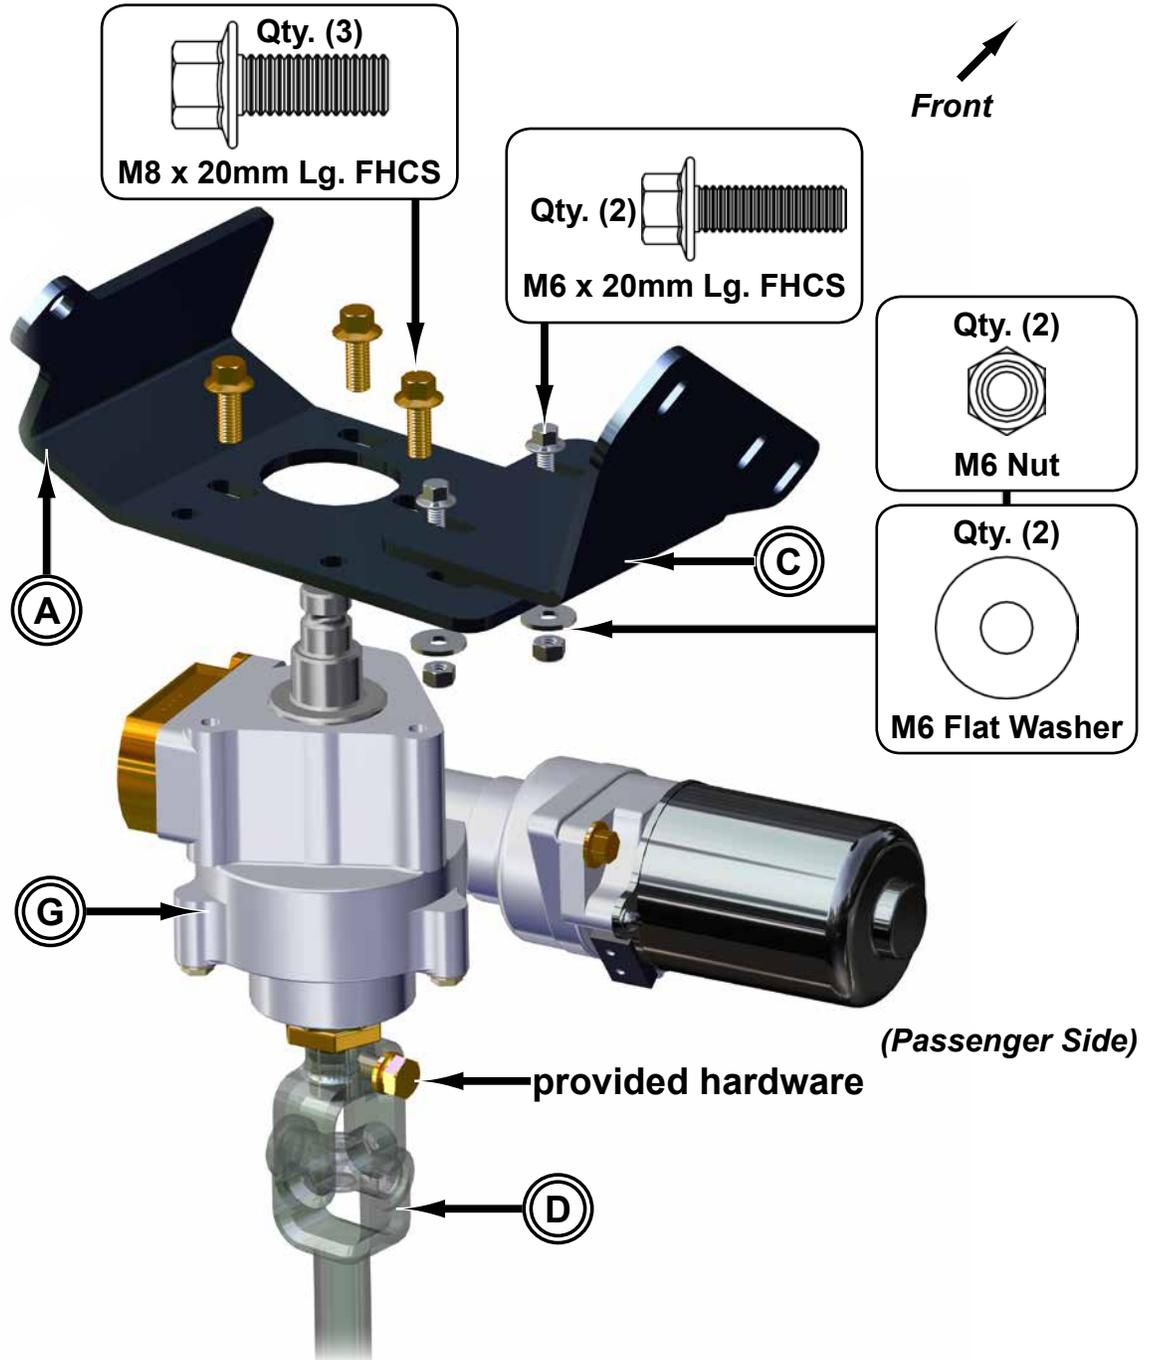

Fig. 6a
4. Install Tab on Mounting Bracket (A) to Steering Column with stock hardware and M8 Flat Washer. See Figs. 6a - 6b.
5. Attach Upper Shaft (E) to Motor (G), tighten completely, and reinstall Steering Wheel; Kit includes new Bushings (K). See Fig. 6a.
- Secure Mounting Bracket (C) with M6-1.0 x 20mm Lg. FHCS, M6 Flat Washers, and M6-1.0 Nylock Nuts. See Figs. 6a - 6b.